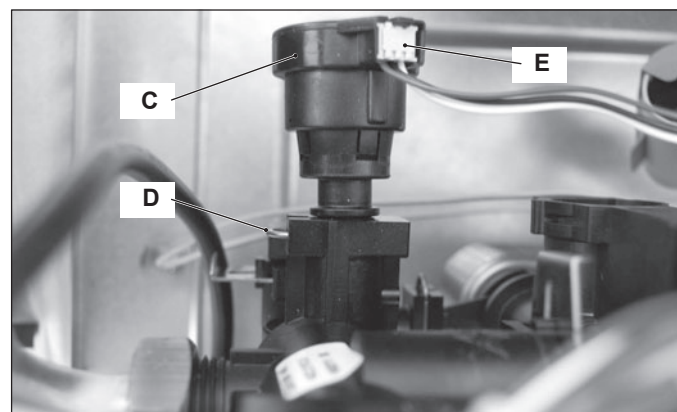

Figure 12.3
- 2 Remove the fixing spring D (Figure 12.3) and remove the primary circuit pressure switch C.
- 3 Disconnect the connectors E (Figure 12.3).